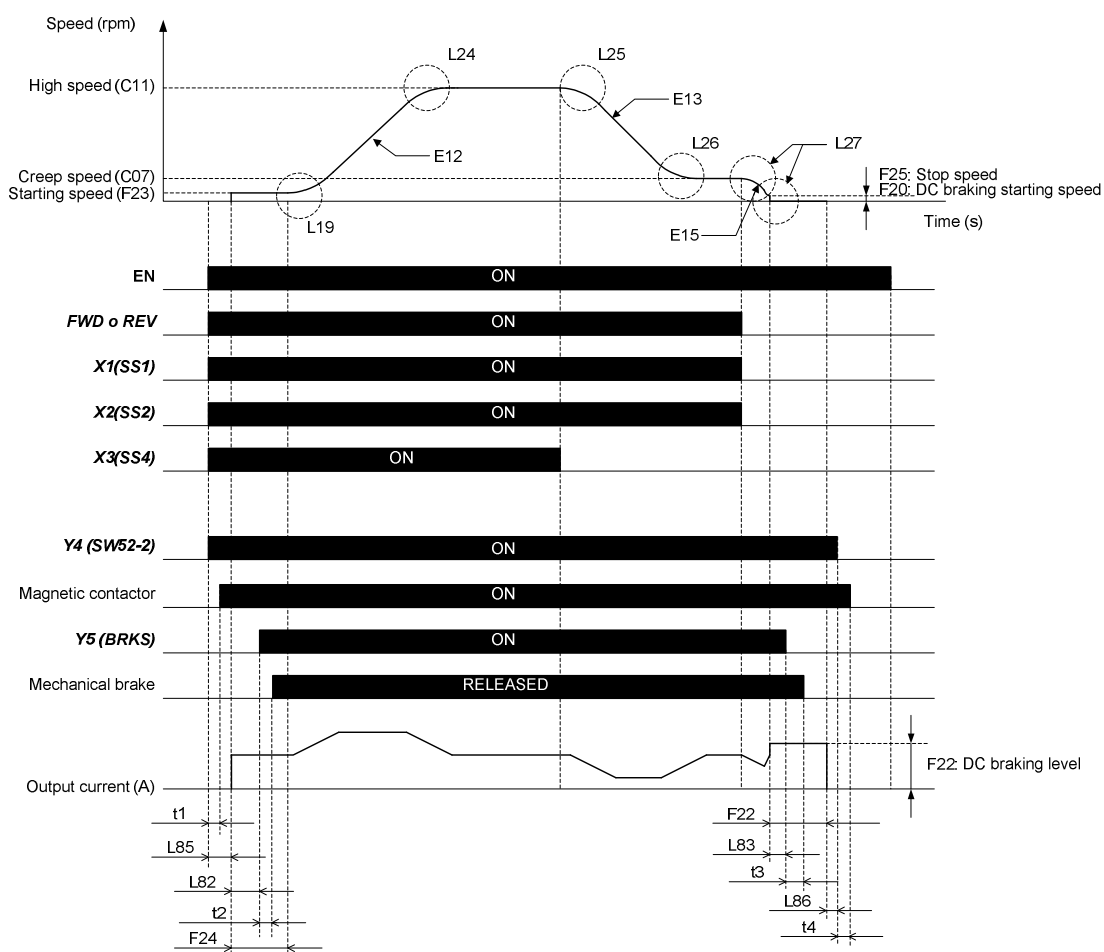

Figure 12.1: Open loop application time and signals sequence diagram.
Figure 12.1 shows a complete time diagram and signals sequence in case of open loop application. It shows a standard travel with a lift controlled by digital inputs with high and creep speed. Only induction motors can be controlled in open loop in a standard lift travel.
- Figure 12.1 is a travel example where brake and main contactor signals are controlled by the inverter. If these signals are controlled by the lift controller, timing might differ.